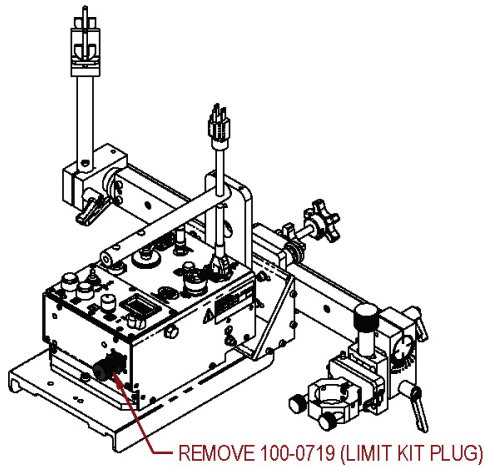

FIGURE 1.
1. Remove the 100-0719 Limit Kit Plug. See figure 1.